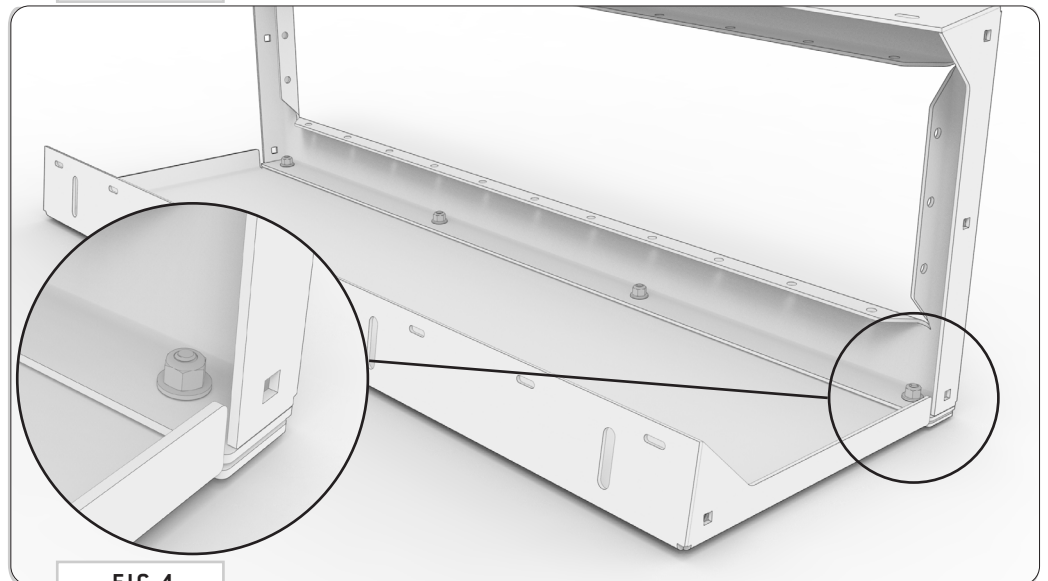

FIG 4
2.1 Lay the **Bottom Panel** down on a soft, flat surface and insert **(4) 1/4-20 x 0.75" Carriage Bolts** into the slots as shown in **FIG 4**.